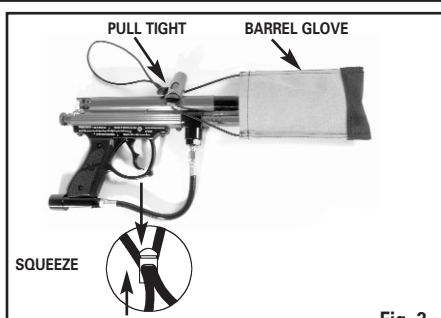

Fig. 3
- Place the BARREL GLOVE over the barrel (Fig. 3)
- Make sure the BARREL GLOVE is placed over the barrel (See Fig. 3)
- Make sure the BARREL GLOVE is placed over the BARREL (See Fig. 3)